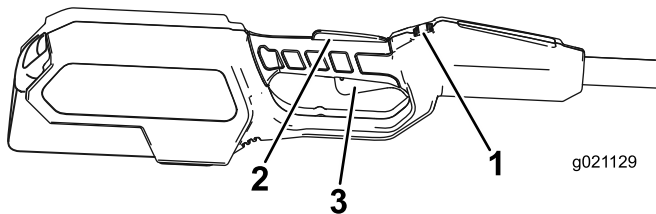

Figure 8
4. To start the trimmer, hold down the lock switch, then squeeze the trigger (Figure 8).
To stop the trimmer, release the trigger (Figure 8).